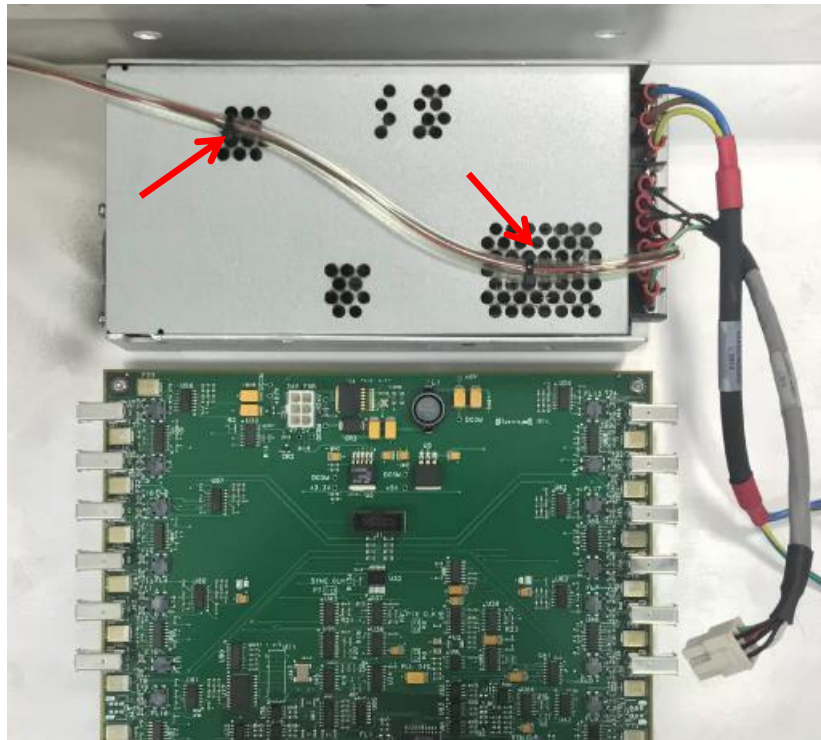

Figure 21
6. Secure Ventilation Fan Power Cable with Cable Ties at Trigger Board Power Supply Convection Casing as below Figure 21